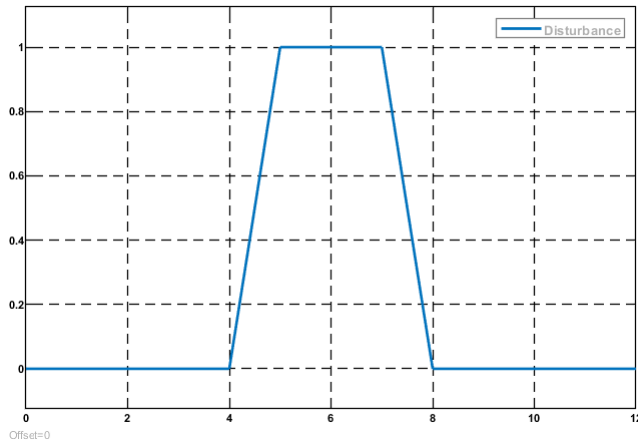

Figure 2: Disturbance Signal
- Incorporate the first disturbance signal (see Figure 2) as the disturbance  $d$ .
- ~~Include the given disturbance (Figure 2) in the analysis.~~
- ~~Evaluate the performance of the Explicit MPC controller with the given disturbance (Figure 2).~~
- ~~– Evaluate the performance of the explicit tube MPC controller with the given disturbance (Figure 2).~~